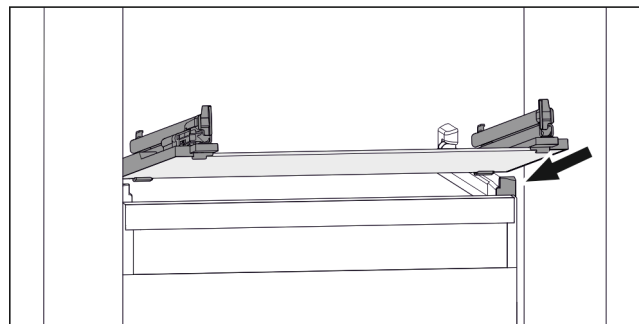

Fig. 102 Example illustration of glass shelf
- ▶ Position glass shelf at an angle behind the stoppers. (see Fig. 102)